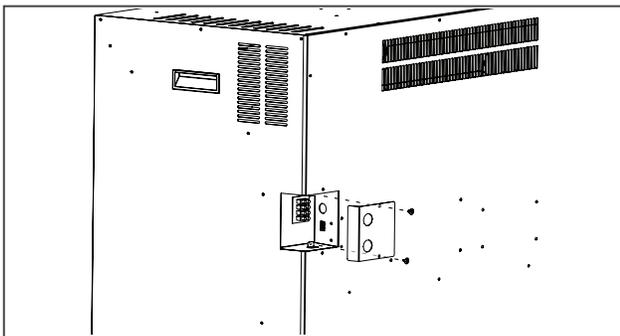

Fig. 1
- Locate the desired 2 conductor or 3 conductor wire cable to the right side of the enclosure for the hard-wiring installation based on the desired 120 V or 240 V heat output capability **(Fig.1)**.